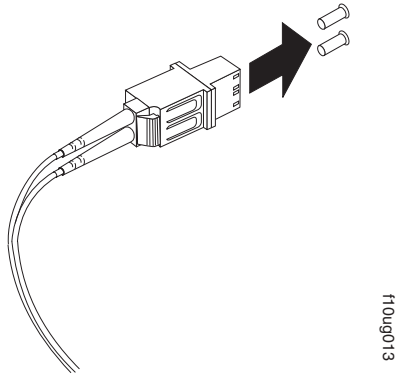

Figure 44. Removing the LC-SC cable adapter protective caps
3. Remove the two protective caps from the LC connector end of the LC-SC cable adapter as shown in Figure 44. Save the protective caps for future use.